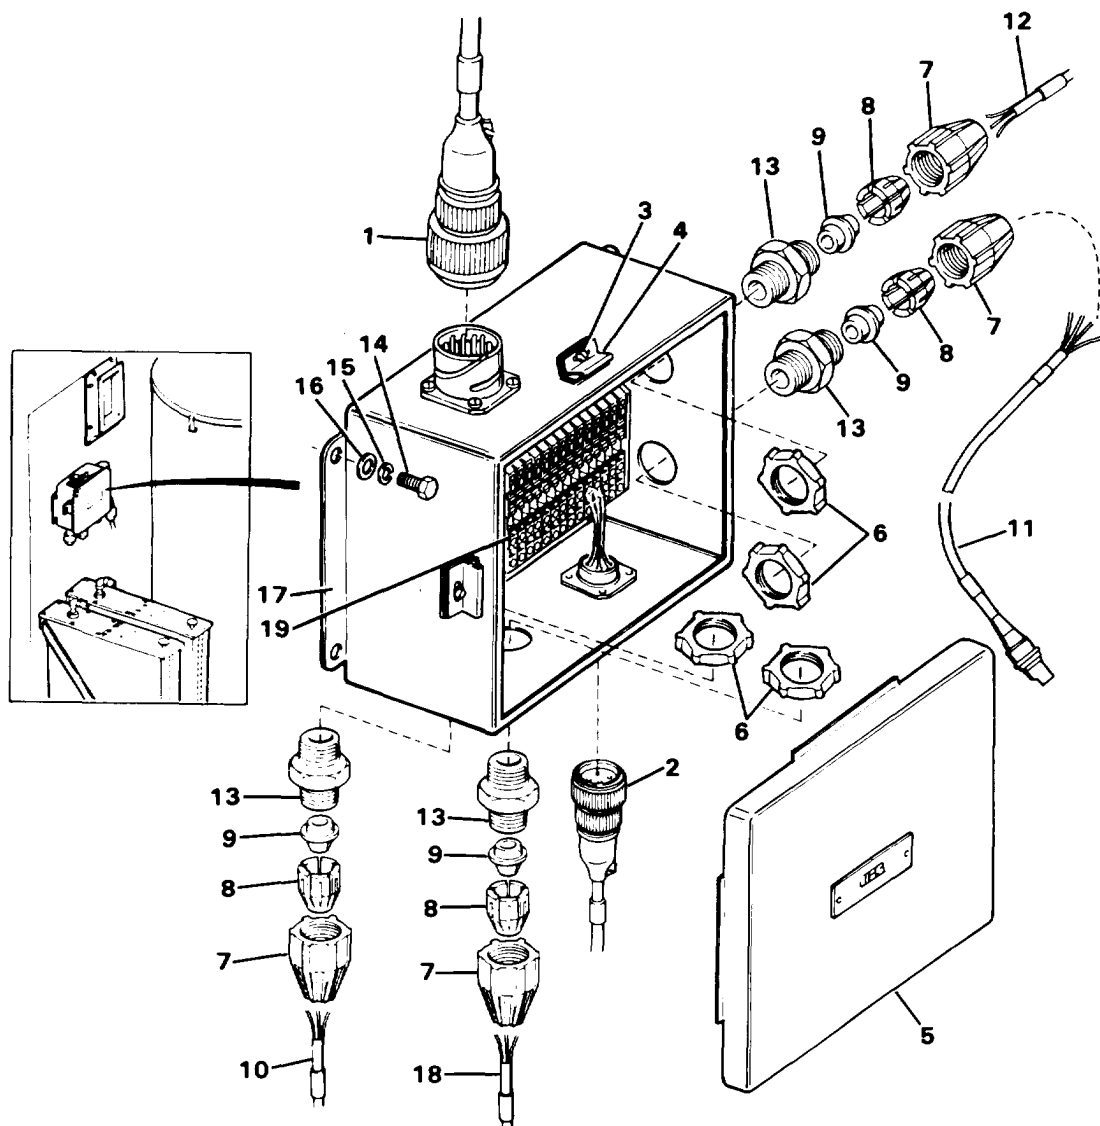
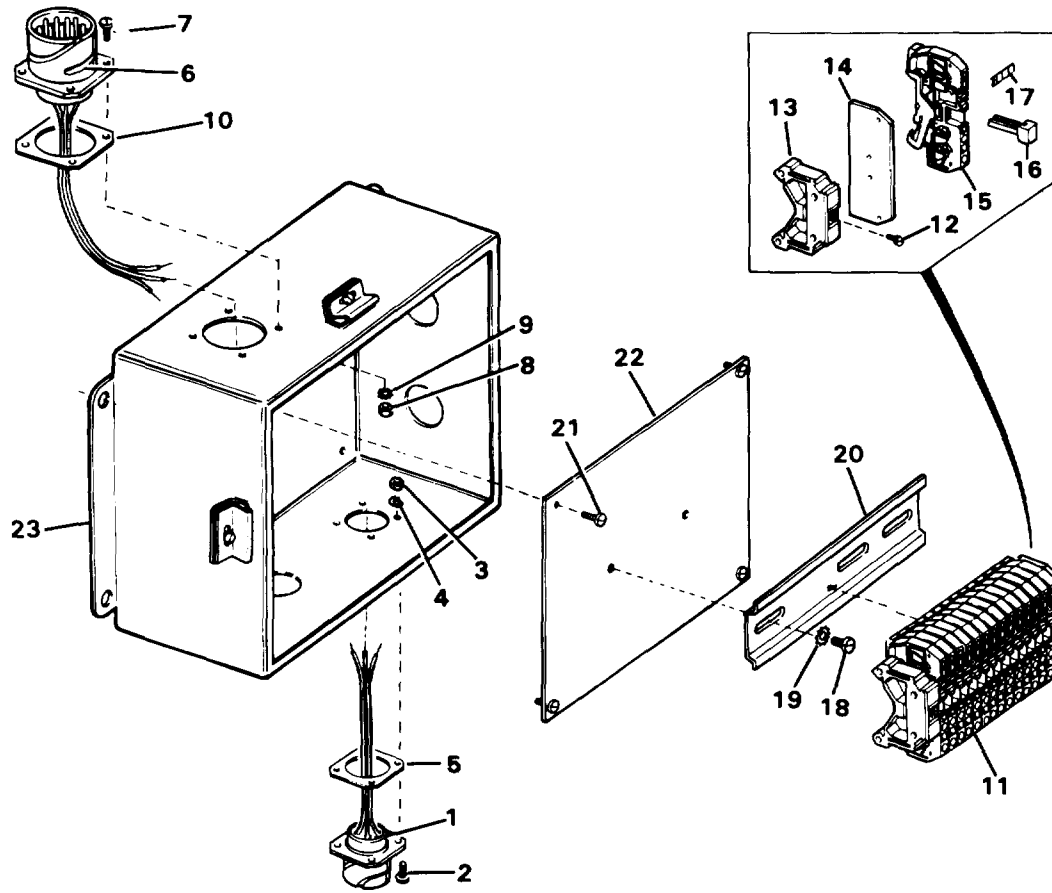

Figure 4-35. Junction Box No. 3
Figure 4-36. Junction Box No. 3
- a. Unscrew connectors (1 and 2, Figure 4-35).
- b. Loosen four capscrews (3) and cover clips (4) and remove cover (5).
- c. Tag and disconnect the wires from terminal board (19).
- d. Loosen four nuts(7) and slide retainers (8)and bushings (9)down on harness assemblies (10, 11, 12 and 18). Pull the harness assemblies out of enclosure(17) and remove four cable fittings with seal washers (13) by removing conduit nuts (6).
- e. Remove four capscrews (14), lockwashers(15) and washers (16) and remove enclosure (17).
- a. Refer to Figure 4-36 and disassemble junction box No. 3 as follows:
- (1) Tag and disconnect remaining connections from terminal board (11)
- (2) Remove wiring harness (1) by removing capscrews (2), nuts (3) and lockwashers (4). Remove gasket (5).
- a. Refer to Figure 4-36 and install plate (22). Secure with cap screws (21).
- b. Install rail (20) and secure with cap screws(18) and lockwashers (19).
- c. Refer to para. 4-10 and assemble terminal board (11 ) by installing fourteen terminal strips (15), end plate (14), retainer (13) and secure with screw (12). Install jumpers(16) being sure to place them as shown and replace markers (17) if removed.
- d. Place gasket(10) on cable harness (6) and install harness(6) in enclosure (23). Secure with cap screws (7), nuts(8) and lockwashers (9).
- e. Connect wires to terminal board (11) as tagged (para, 4-10). Refer to Table 4-4 for wire connections, if tags were lost.
- f. Place gasket (5) on cable harness(1) and install harness(1) in enclosure (23). Secure with cap screws (2), nuts (3) and lockwashers (4).
- g. Connect wires to terminal board(19, Figure 4-35) as tagged (para. 4-10). Refer to Table 4-4 for wire connections if tags were lost.
- a. Refer to Figure 4-35 and install enclosure (17). Secure with four capscrews (14), lockwashers (15) and washers (16).
- b. Install four cable fittings with seal washers (13) on enclosure (17) and secure with conduit nuts (6).
- c. Slide nuts (7), retainers (8) and bushings (9) on harness assemblies (10, 11, 12 and 18). Push harness assemblies into the enclosures through fittings (13) and tighten four nuts (7) on fittings (13).
- f. Install cover (5) and secure with clips (4) and capscrews (3).
\*Reference is to item number on Figure 4-35.